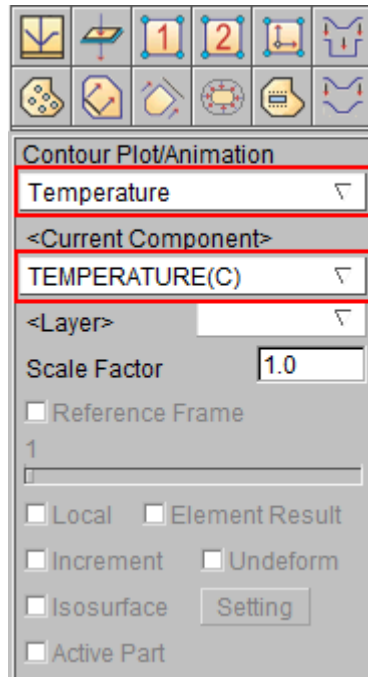

Figure 1.43 Temperature display
3. Select Temperature from the Current Component drop-down, as illustrated in Figure 1.43.